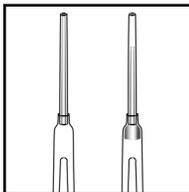

Figure 4
5. Holding the VACUette almost horizontally, touch the tip to the contents of the micro-test tube (fig. 4).
6. Pull the VACUette into a vertical position. A small portion of the collected sample should fall into the sleeve of the VACUette tip (fig. 4).